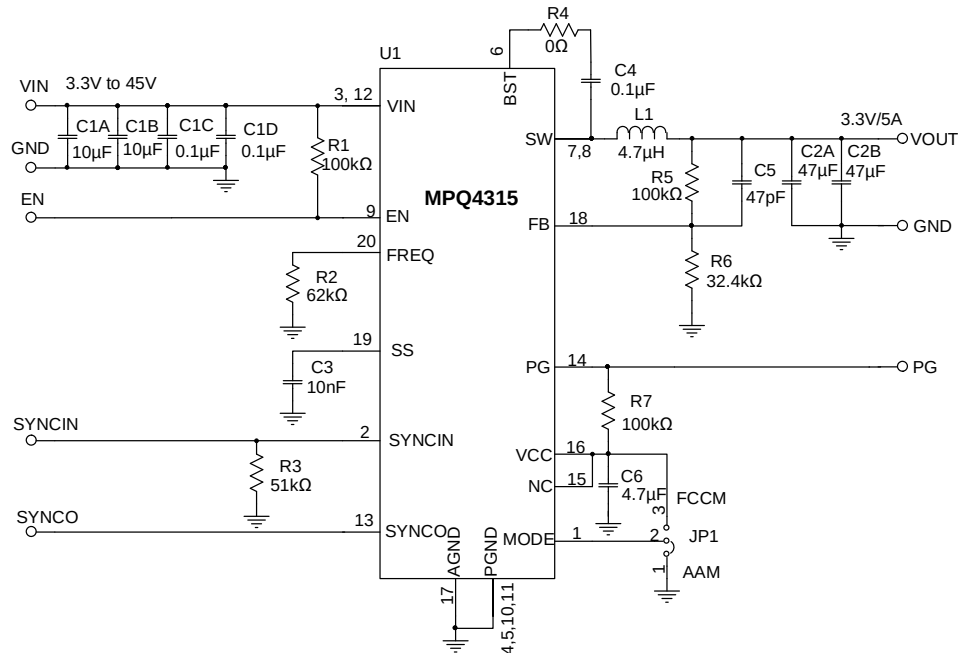

Figure 11: Typical Application Circuit ($V_{OUT} = 3.3V$, $f_{SW} = 470kHz$)
9) The recommended PCB layout is based on Figure 11.